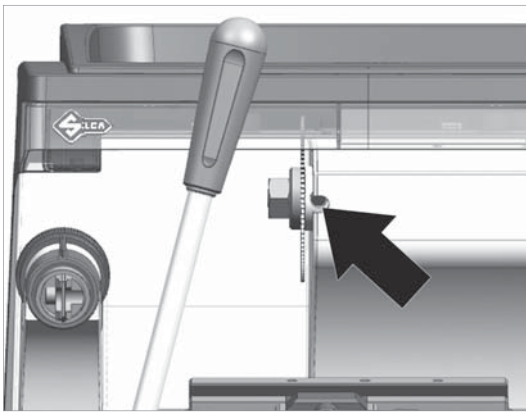
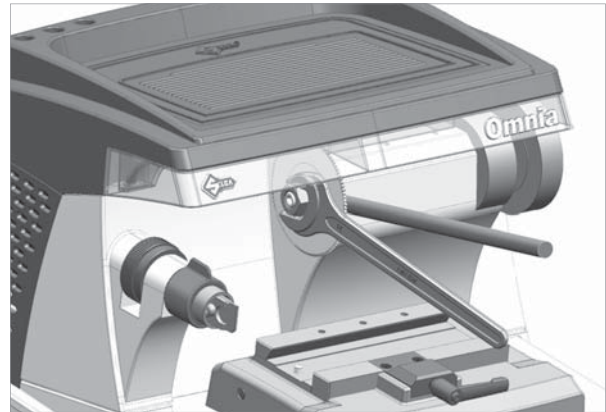

Fig.57
Fig.58
- 2) Slot the locking rod (provided) into the hole of the cutter shaft (Fig.57 and Fig.58).
- 2) Slot the locking rod (provided) into the hole of the cutting tool shaft (Fig.57).